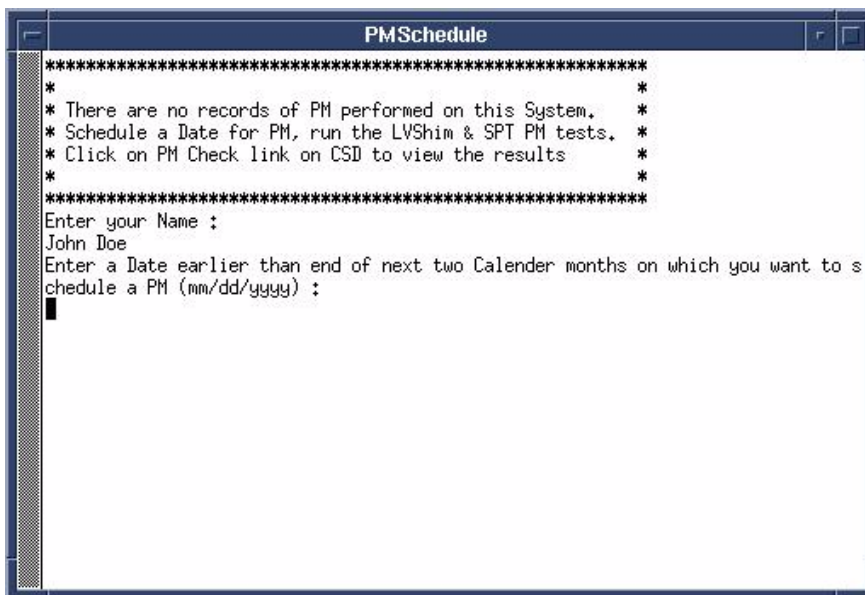

Figure 23
2. Enter your Name or initials **Figure 23**